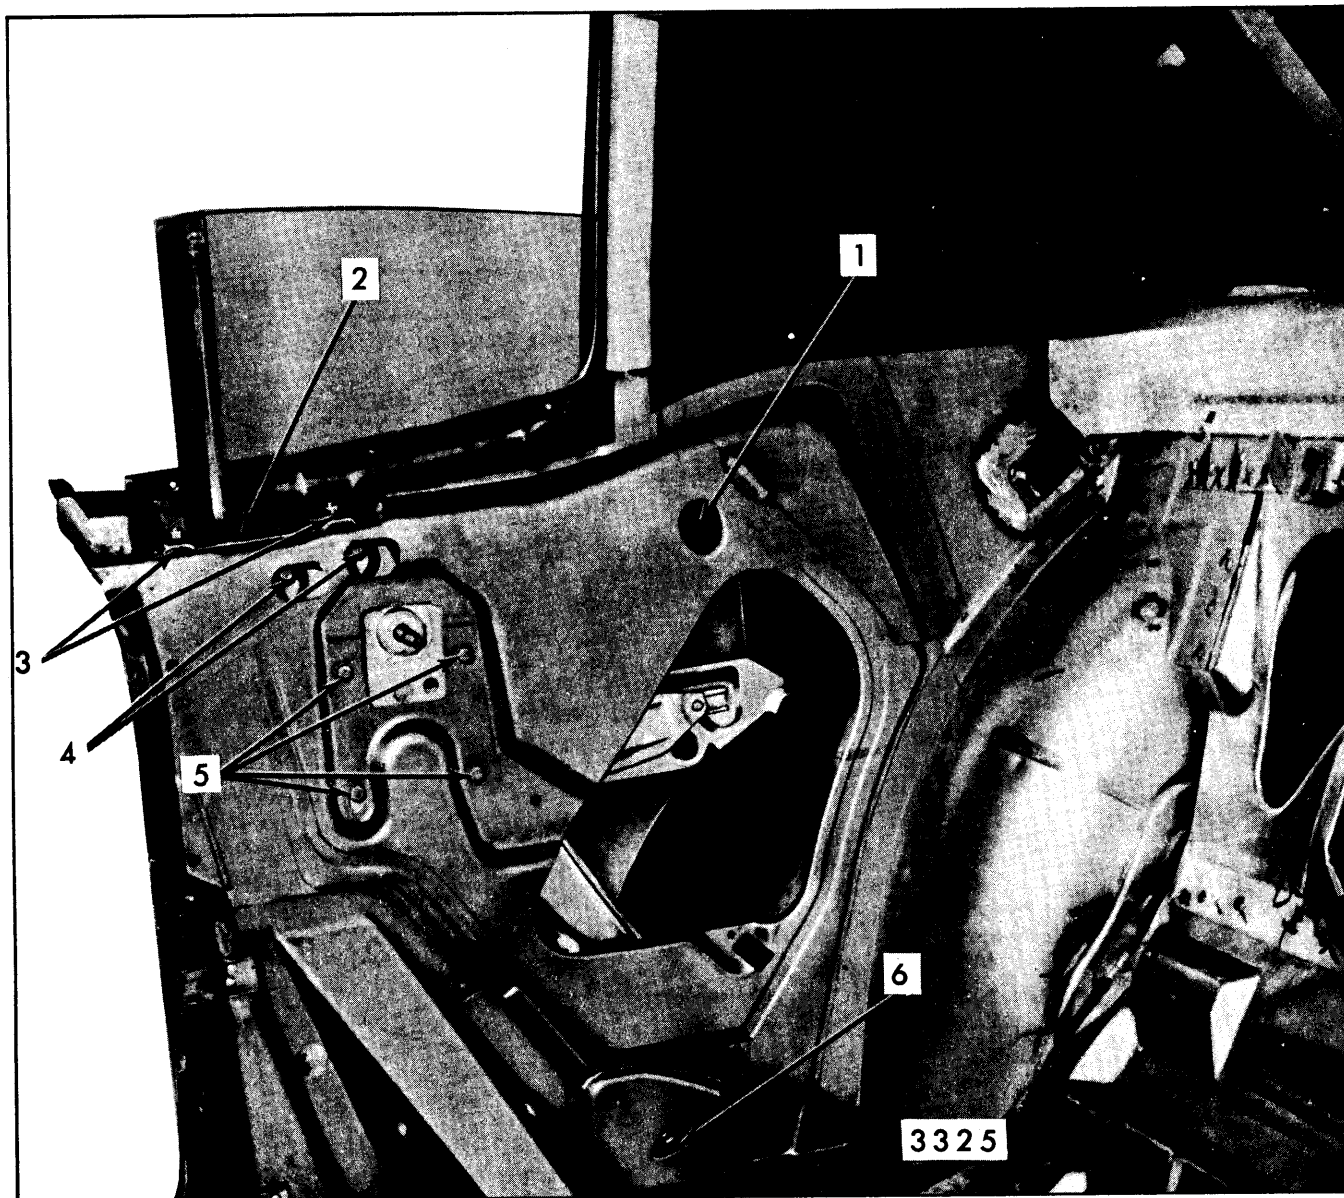

Fig. 7-18—Rear Quarter Hardware - “B-37, 47, 57” Styles
2. Remove rear up-travel stop (See Figs. 7-18 and 7-19).